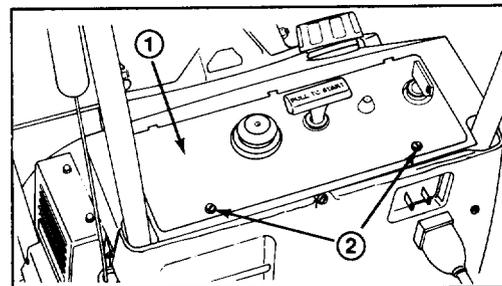

Figure 15
(Figs. 15, 16 & 17)
1. REMOVE CONTROL PANEL (Fig. 15)—Remove (2) screws securing control panel to housing. Remove ignition key and lift off panel, allowing it to hang on recoil rope.